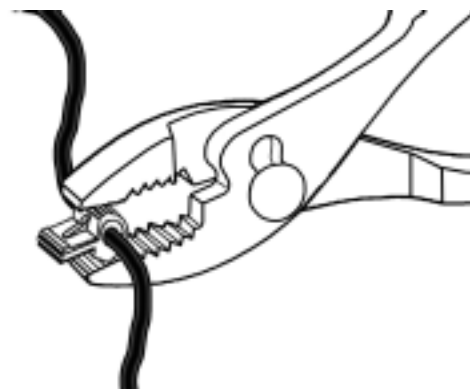

FIGURE 34
1. USING PLIERS, ATTACH ONE SUPPLIED 3M CRIMP LOCK TO THE 12 Vdc POWER SOURCE BLUE WIRE AND ANOTHER ONE TO THE BLACK WIRE 2" FROM THE END OF THE CIGARETTE LIGHTER CONNECTOR. (SEE FIGURES 34 AND 35)